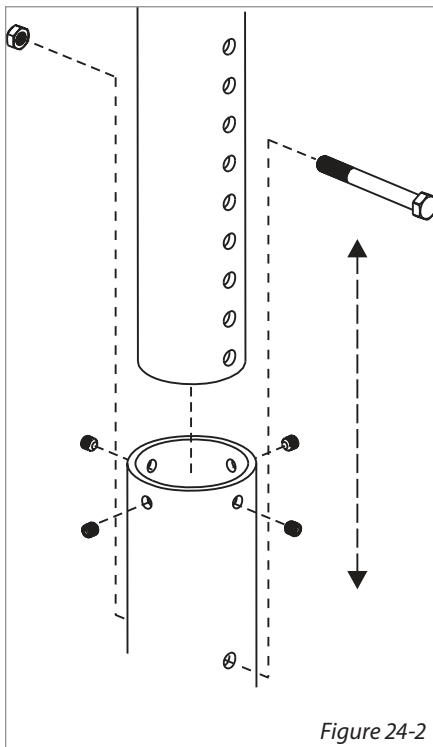

Figure 24-2
- Tighten set screws/ (x4) [Figure 24-2]